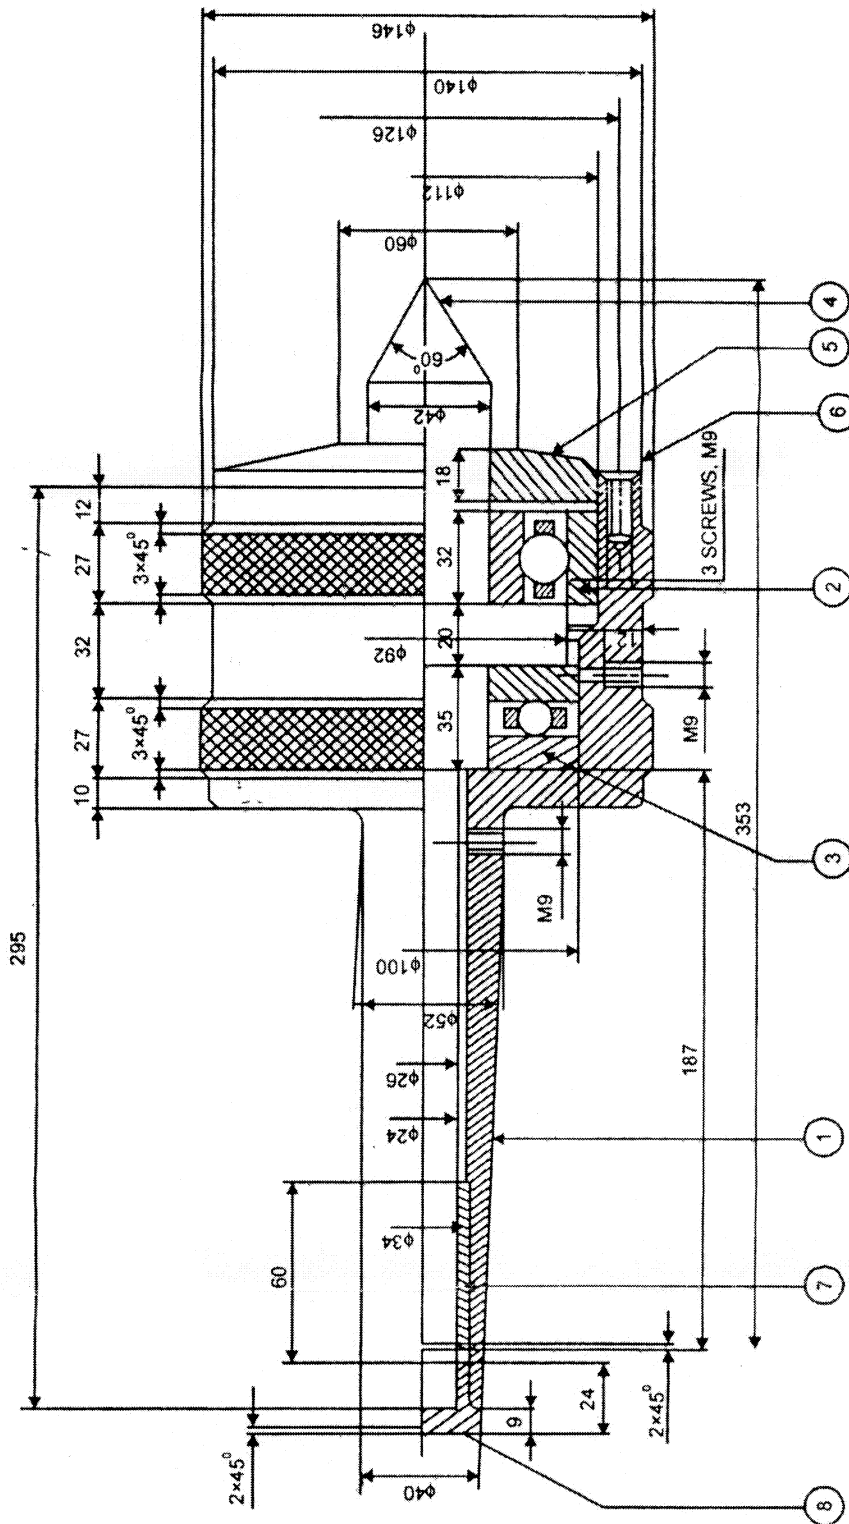

Fig.2. Revolving Center
- 6 Study the given assembly drawing Revolving Center. (Shown in fig.2)